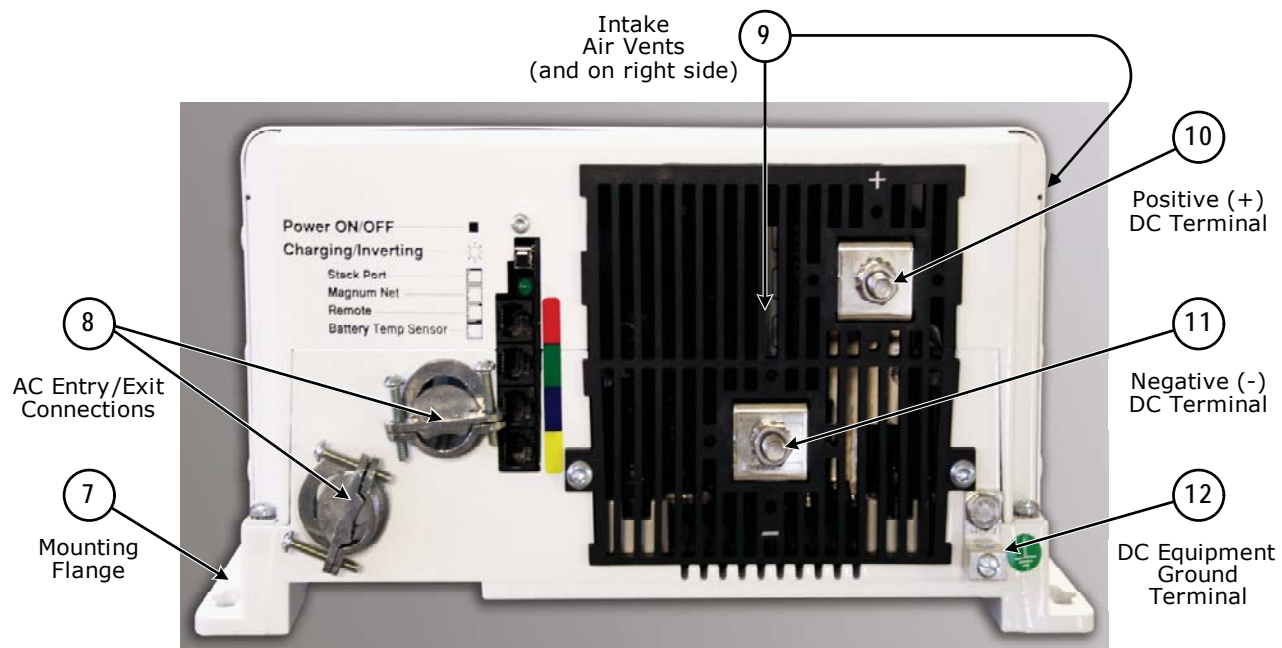
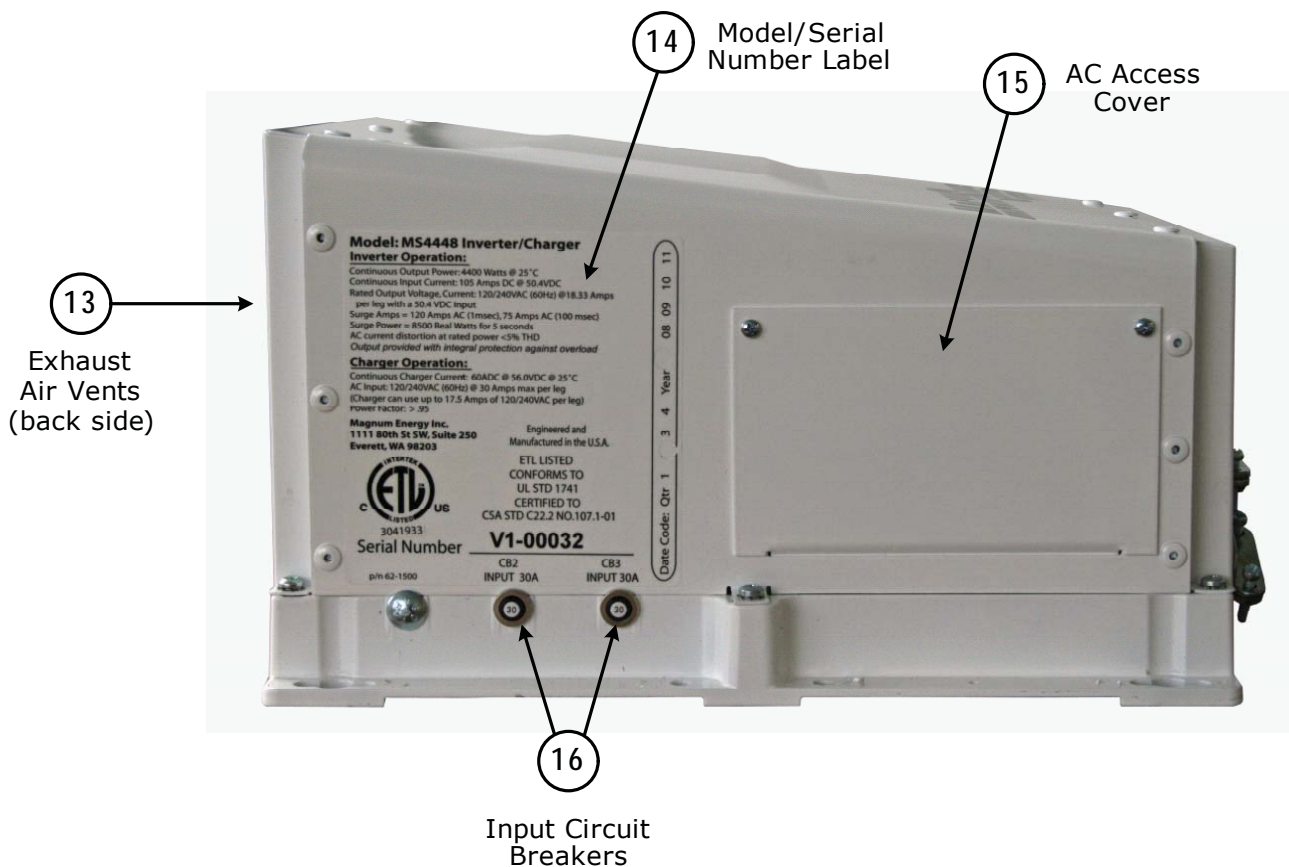

Figure 1-2, Electrical Connection Points
Figure 1-3, Left Side Features
The left side of the MS-AE Series is equipped with the following features (refer to figure 1-3):
Ventilation - In order for the inverter to provide full output power and avoid overtemperature fault conditions; do not cover or block the inverters ventilation openings or install this inverter in an area with limited airflow. The inverter uses two internal fans to provide forced air cooling, these fans pull in air through the intake vents (see item 9 in figure 1-2) and blow out air through the exhaust vents (see item 13 in figure 1-3). Allow at the minimum, an airspace clearance of 6" at the intake and exhaust vents and 3" everywhere else to provide adequate ventilation.